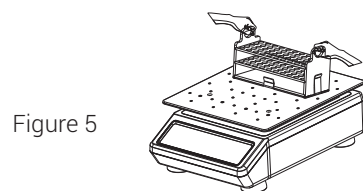

Figure 5
2. Vertically clamp the tube rack into the tube rack holder and make sure the bottom of the tube rack is closely attached to the holder as shown in the figure 5.